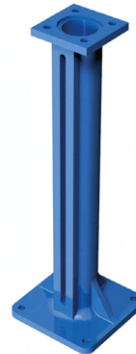

Fig.4
- Straight floor stand (Fig. 4)